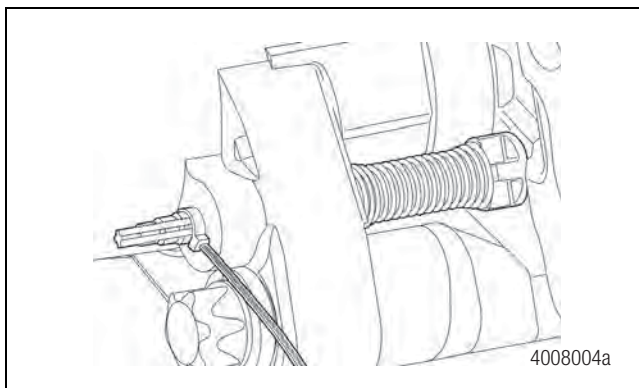

Figure 5.22
2. Ensure the visual wear indicator is not damaged. Figure 5.22.